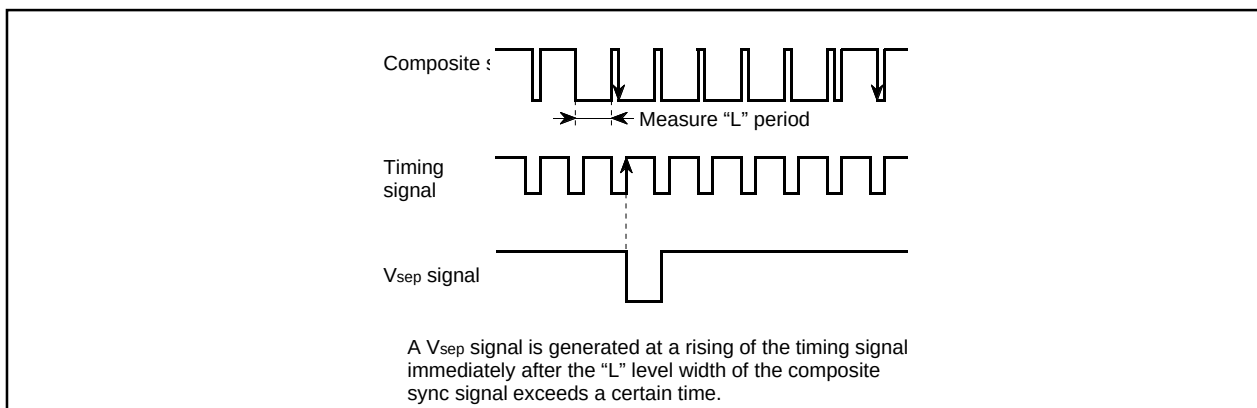

Figure 2.14.6 V_{sep} generating timing (method 2)
- Method 2 The "L" level width of the composite sync signal is measured. If this width exceeds a certain time, it is detected whether a falling of the composite sync signal exists or not in the "L" level period of the timing signal immediately after this "L" level. If a falling exists, a V_{sep} signal is generated in synchronization with the rising of the timing signal (refer to Figure 2.14.6).
Figure 2.14.6 shows a V_{sep} generating timing. The timing signal shown in the figure is generated from the reference clock which the timing generating circuit outputs.